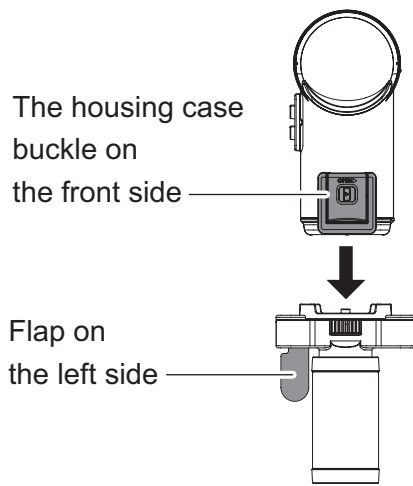

Figure 1
1. Place the underwater housing case on the head so that the buckle faces forward and the flap is on the left side. (Figure 1)